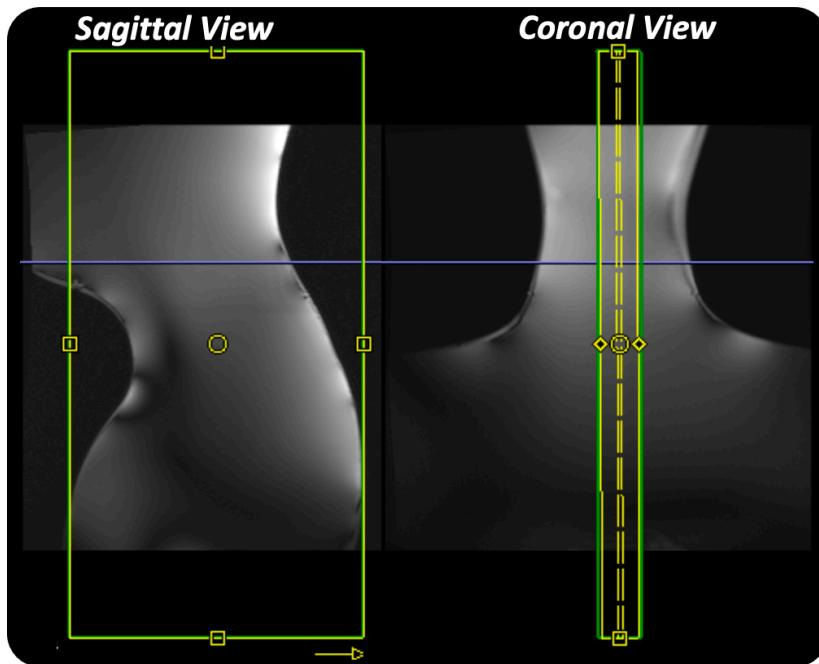

Figure 6. Positioning for Large FOV DREAM scans.
- **Position the Field of View (FOV) according to Figure 6.** The center of the FOV should roughly **correspond to the Isocentre**. If the FOV in the FH direction for the imported protocol is too large for your coil, use the largest FOV possible in the FH direction for your coil.